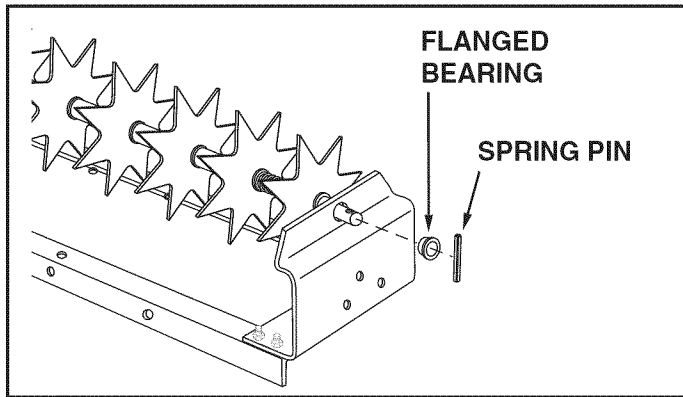

FIGURE 5
- Slide a flanged bearing onto the axle and push it into the hole in the end plate. See figure 5.
- Drive a spring pin into the hole in the axle until the pin just slightly extends through the other side of the axle. The spring pins secure the axle in the frame and should also prevent the axle from rotating. See figure 5.